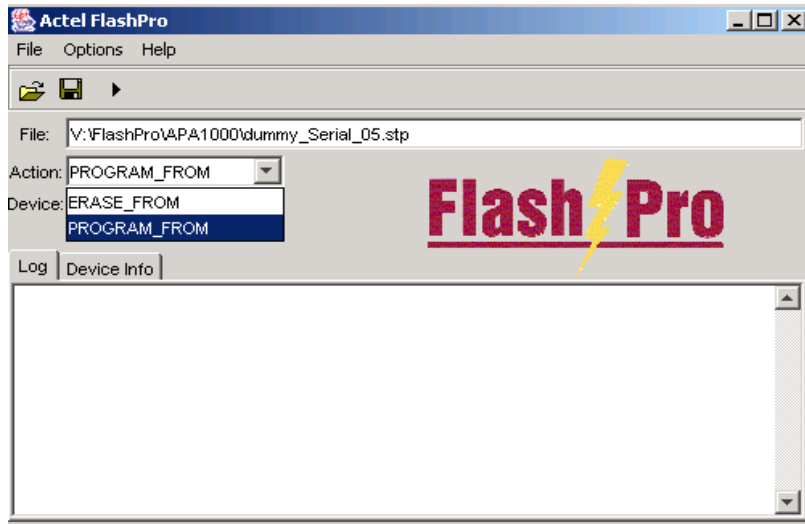

Figure 4-28. Updated Action Combo Box
**Note:** The Action Combo box contains all of the actions in the STAPL file. See Figure 4-28.